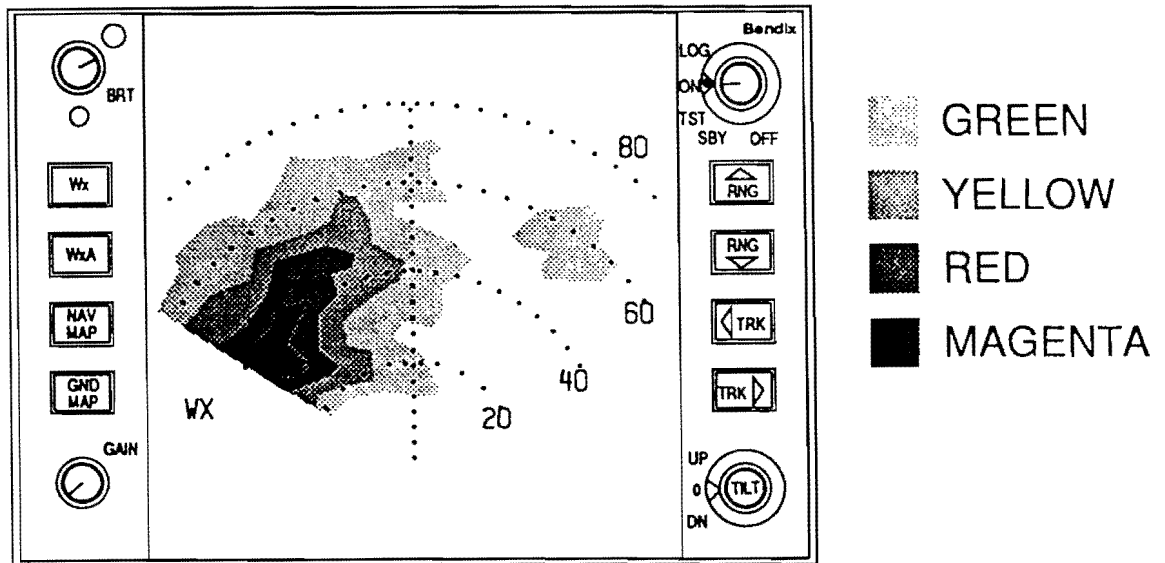

FIGURE 3-3 TYPICAL WEATHER DISPLAY
- A. Observe the existing mode indicated in the display (see Figure 3-3)